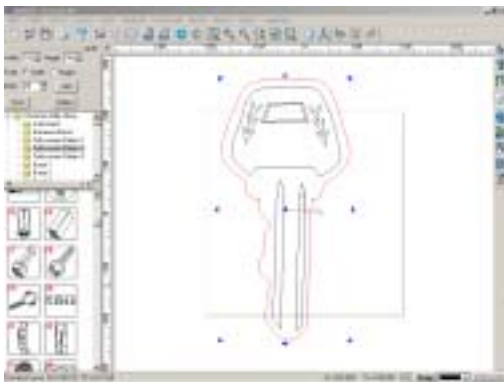
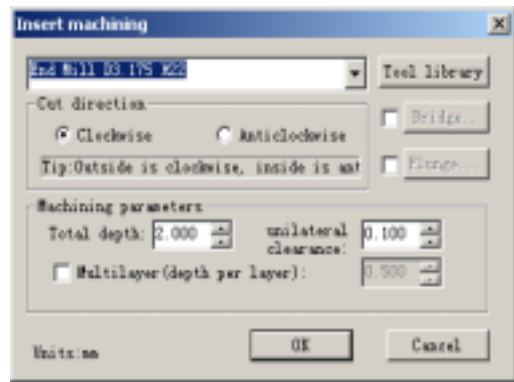

Fig. 12-34
Fig. 12-35
3. Ungroup the graph, and select its outer contour. (Fig. 12-34) Click on the shortcut icon  on Tool Path Bar or select Tool path->Insert and Inlay->Insert machining in the menu bar and the dialog in Fig. 12-35 is shown.